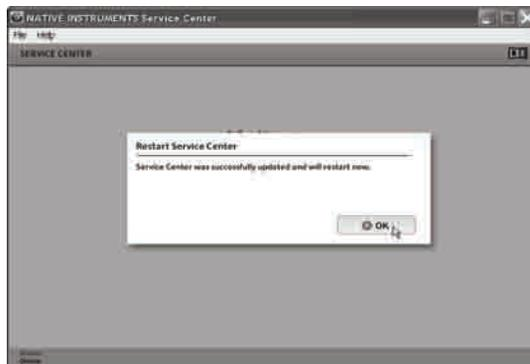

Figure 4.23
2. If the following message appears, click **OK**. (Figure 4.23)